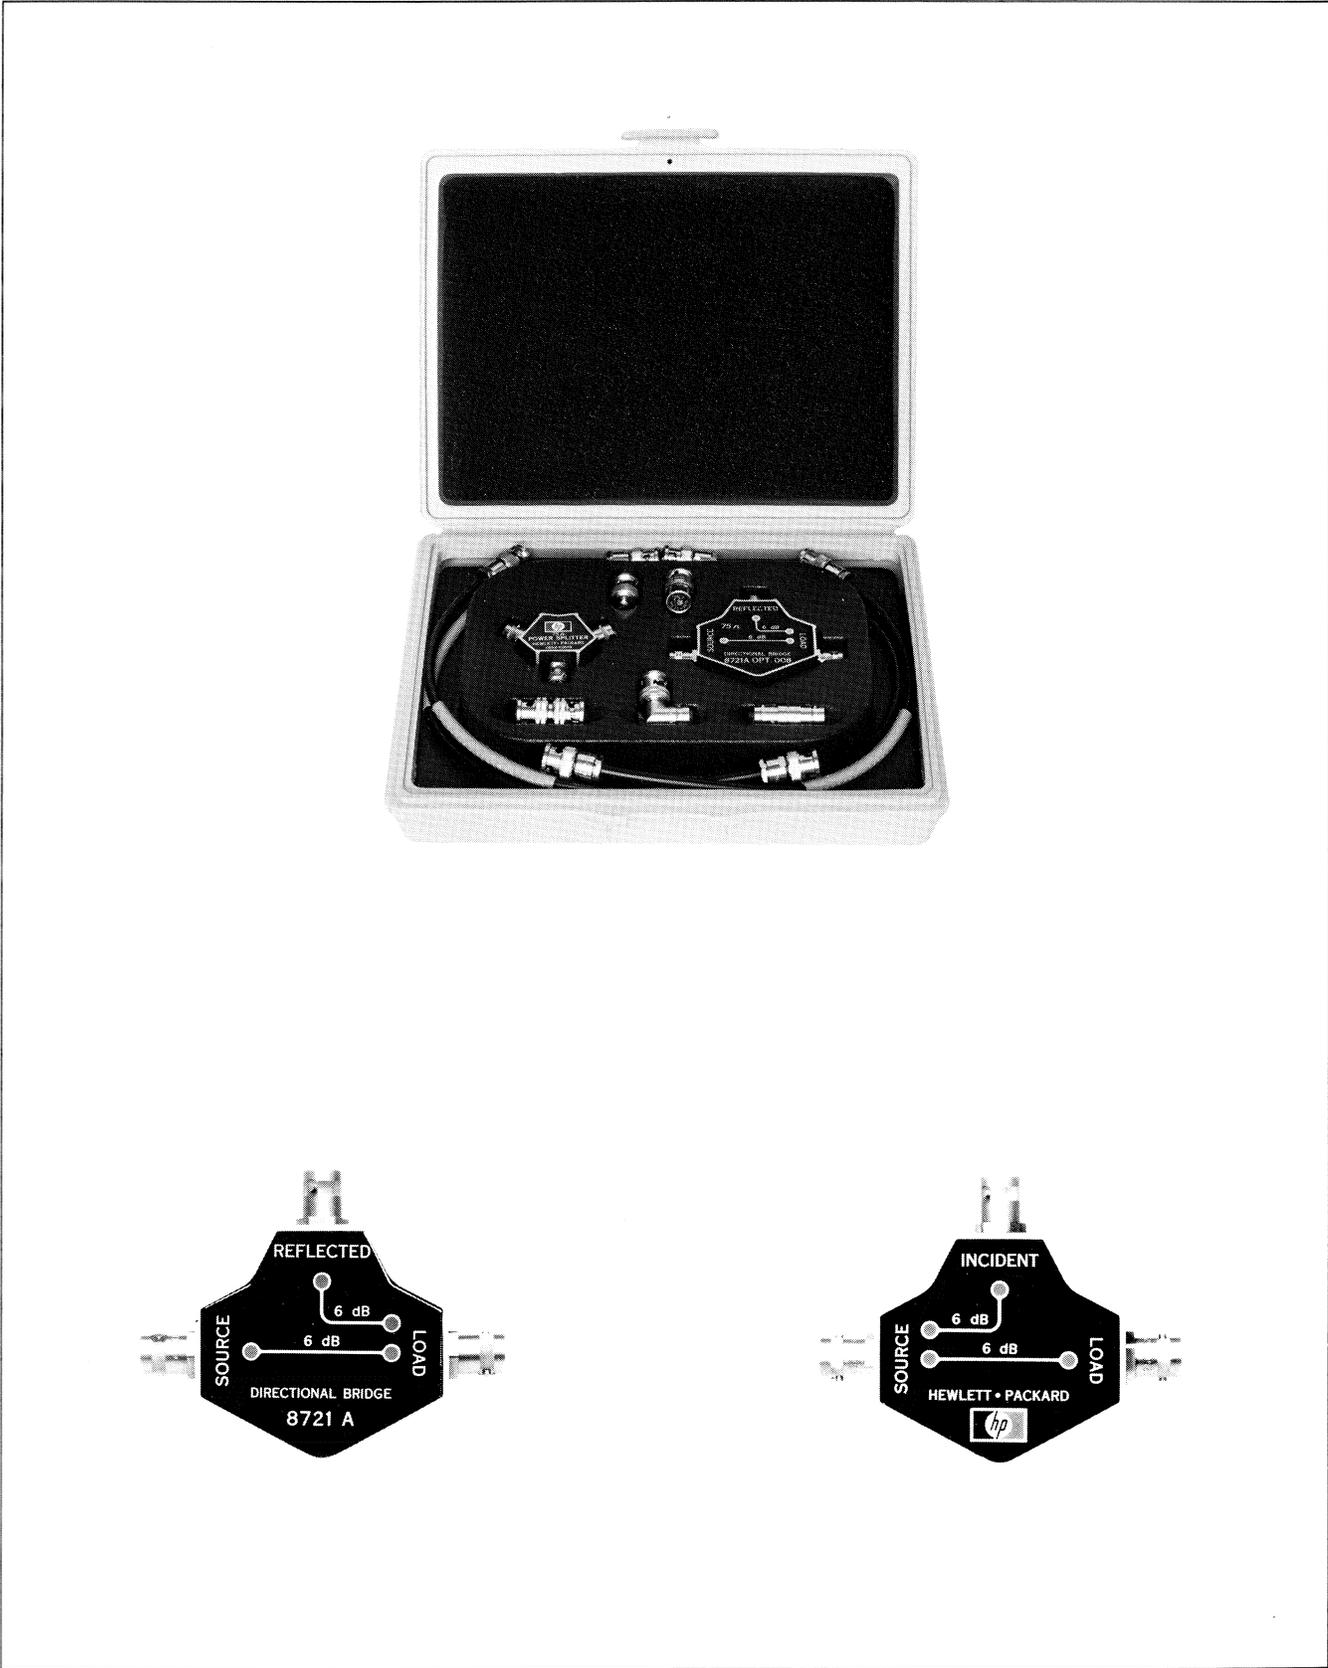
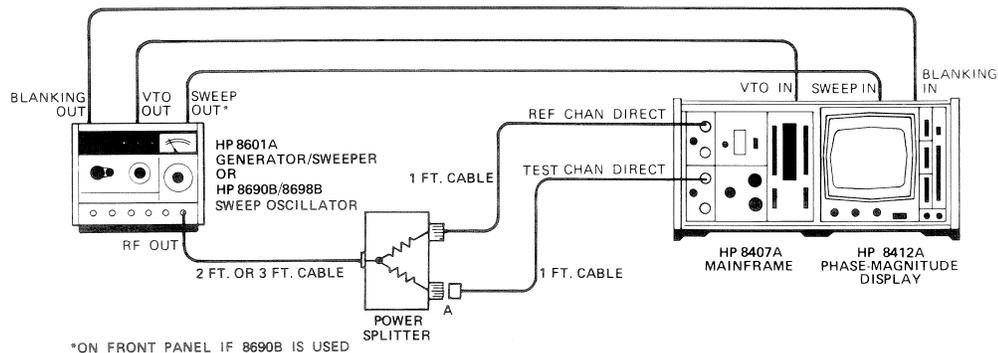
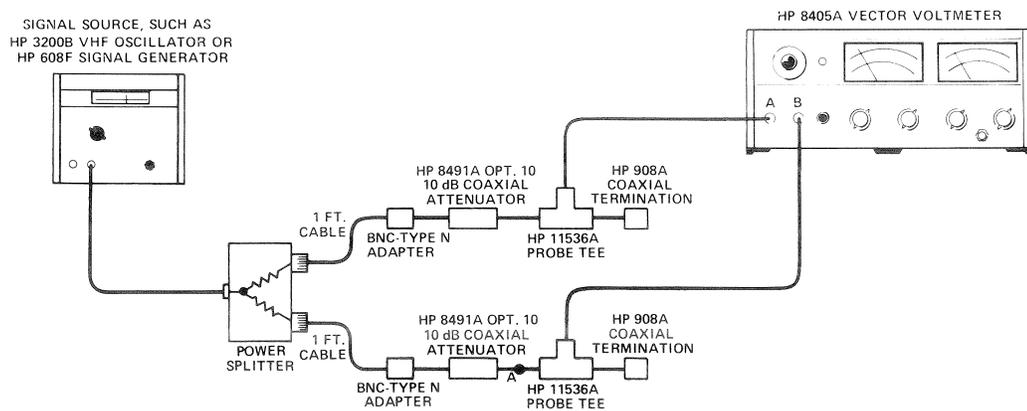

Figure 1. HP 11652A Transmission/Reflection Kit and HP 8721A Directional Bridge
Figure 4. Basic Setup for Transmission Measurements
Figure 6. Setup for Making Transmission Measurements with HP 8405A
The HP Model 11652A Transmission/Reflection Kit (see Figure 1) is used when characterizing 50-ohm RF networks from 0.1 to 110 MHz. Swept measurements may be made when the HP 11652A is used with the HP 8407A Network Analyzer (see Figures 4 and 5). Single frequency measurements may be made when using the HP 11652A with the HP 8405A Vector Voltmeter (see Figures 6 and 7).
Do not misplace the cables supplied with the kit. They have been carefully chosen for proper electrical length and are triple-shielded for isolation. Be sure to use proper lengths of cable during setup (refer to Figures 4 through 7).
- The HP 11652A is used as shown in Figure 4 when making a transmission measurement.
1. Set up the equipment as shown in Figure 4.
1. Set up the equipment as shown in Figure 6.
3. Insert the test device at point A in Figure 6 and make the measurement.